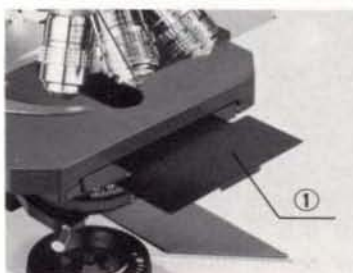

Fig. 8
Rack down the condenser and insert the slide ① into the slit in the stage. (Fig. 8)